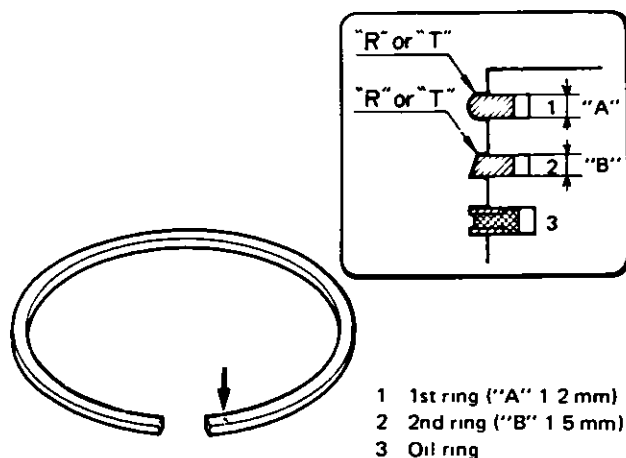

Fig. 3-6-16 Piston rings installation
- As indicated in Fig. 3-6-16, 1st and 2nd rings have "R" or "T" mark. Installing these piston rings to piston with marked side of each ring faced forward top of piston.
Distinguish 1st ring from 2nd ring by referring to Fig. 3-6-16.